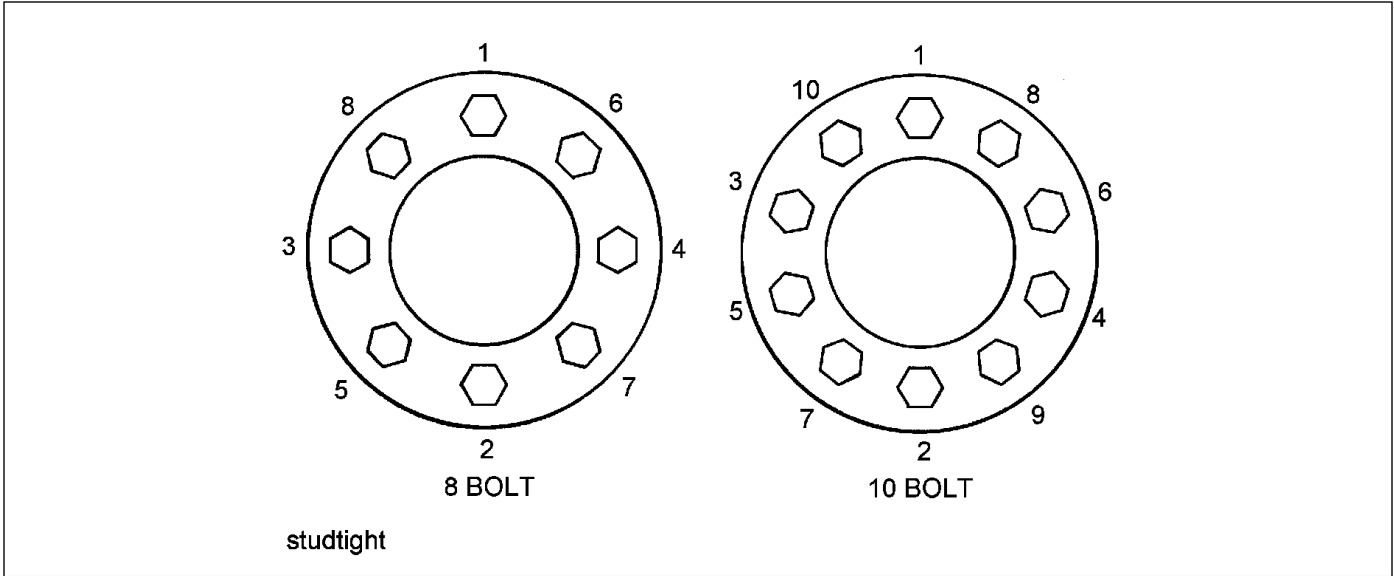

Figure 4-20: Stud Tightening Sequence
3. Install the inner capnuts on the studs and tighten to fifty ft-lbs using the sequence illustrated in **Figure 4-20**. Make certain that the left-handed threads are installed on the driver side of the vehicle and the right-handed threads are installed on the curbside of the vehicle.
4. Tighten the inner capnuts to full torque of 450 to 500 ft-lbs using the sequence shown in **Figure 4-20**.
6. Install the outer capnuts and tighten to 50 ft-lbs using the sequence in **Figure 4-20**. Then tighten to full torque of 450 to 500 ft-lbs using the same sequence.